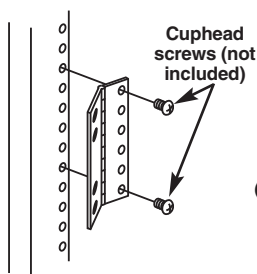

Figure 1. Attaching the hinge bracket to the rack.
1. Using (2) cuphead screws (not included), connect one side of the hinge bracket to the rail as shown in Figure 1.